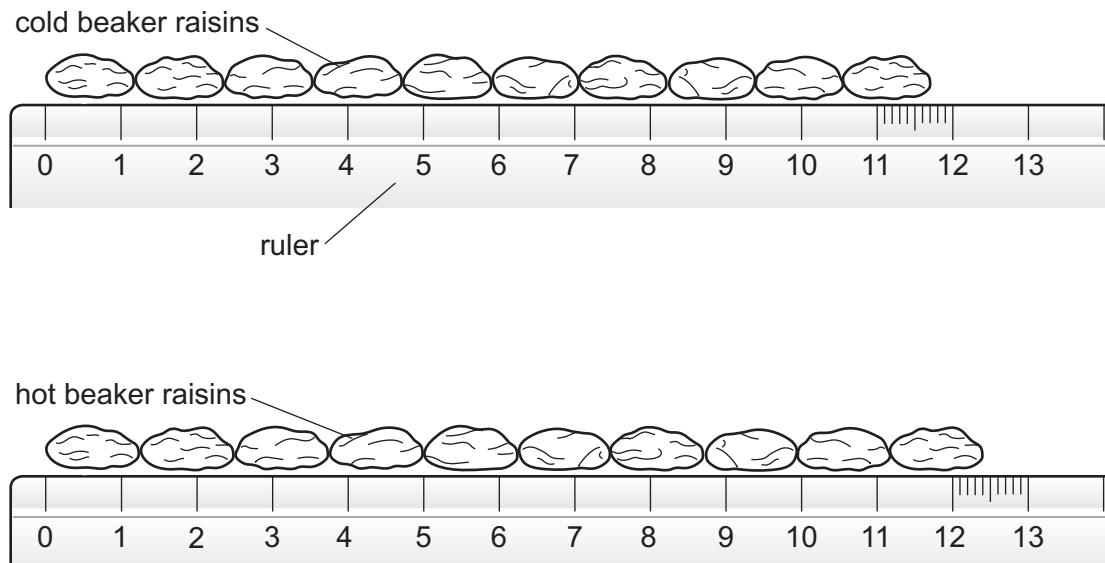

Fig. 1.4
A drawing of the two lines of raisins from step 12 and step 13 is shown in Fig. 1.4.
- measuring and recording the length of the lines of raisins shown in Fig. 1.4.